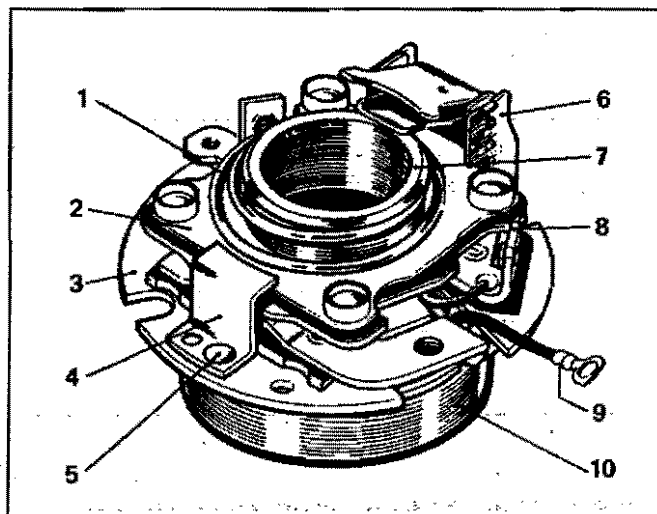
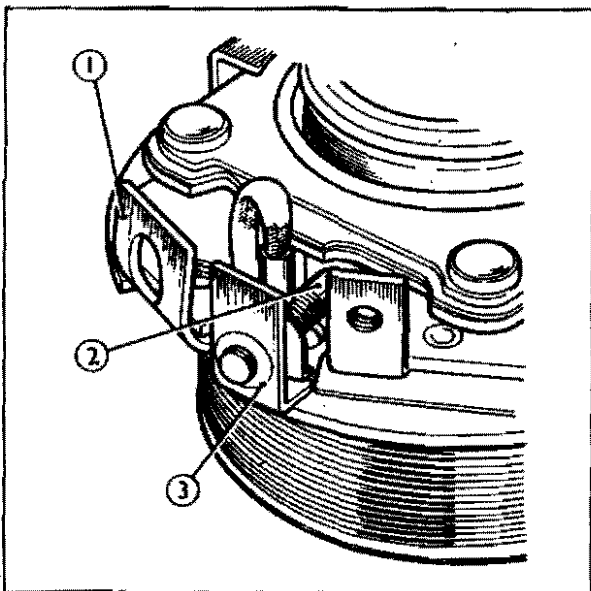

Fig. 70 – Solenoid switch assembly.
Fig. 72 – Solenoid Terminal and Insulators
The coils can be checked for short or open circuits by measuring current consumption at nominal voltage. 12 VOLT STARTER SOLENOIDS ONLY are dual wound and consist of a pull-in and a hold-on winding, therefore before testing these, a link should be made between the base of the contact assembly (see Fig. 70), and the terminal lug on EARTH RETURN versions, or between the green lead and terminal lug on insulated RETURN VERSIONS.
1. Fit the protection collar (special Service Tool No. 6244—6) over the end of the pinion sleeve and insert the pinion assembly into the drive-end shield, ensuring that the dust scraper ring (45) is not damaged in the process.
3. Place the solenoid terminal, solenoid terminal insulator, and main terminal insulator on the solenoid assembly as shown in Fig. 72.
4. Insert the solenoid assembly into the drive endshield and fasten it in position with spring washers and self-tapping screws (31). Drop the anodized metal strip on the inside face of the main terminal insulator.
5. Push the solenoid terminal (21) into its hole, and replace bush (19), spring washer and nut (20).
6. Insert main terminal (22) into position from inside the housing, and replace bush (24), rubber ring, insulating washers, plain washers, spring washers and nut (23). Pressing down the plunger gives room to insert the main terminal. Do not tighten until item 7 has been carried out. Add the solenoid terminal tag (9) Fig. 70.